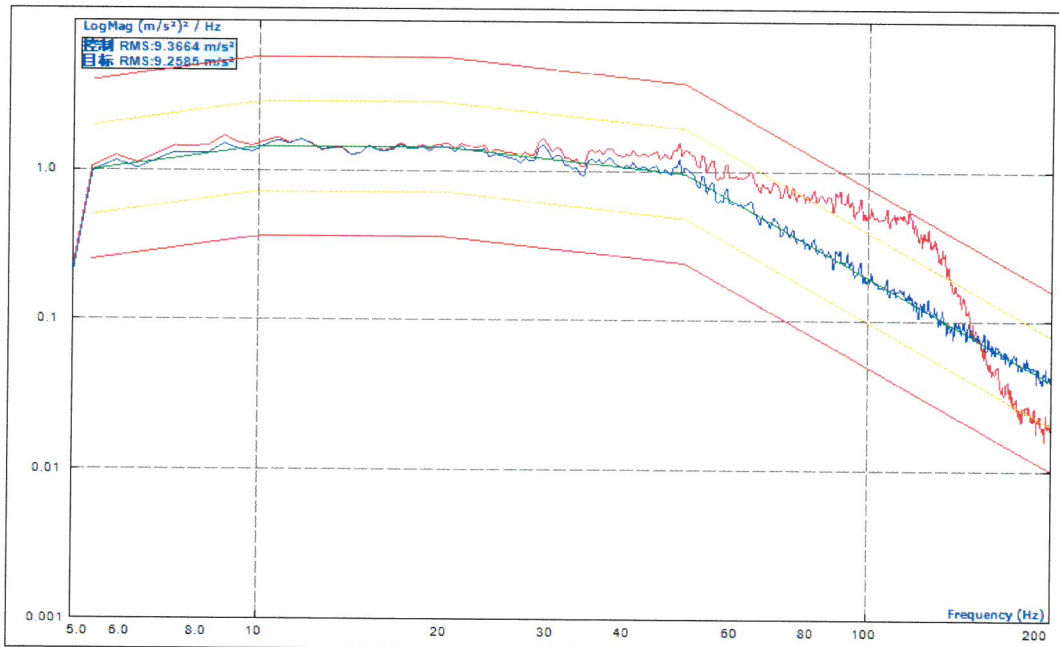

Fig.10 Show the PSD profile of Y₁ axis
- Fig.10 Show the PSD profile of Y_1 axis.